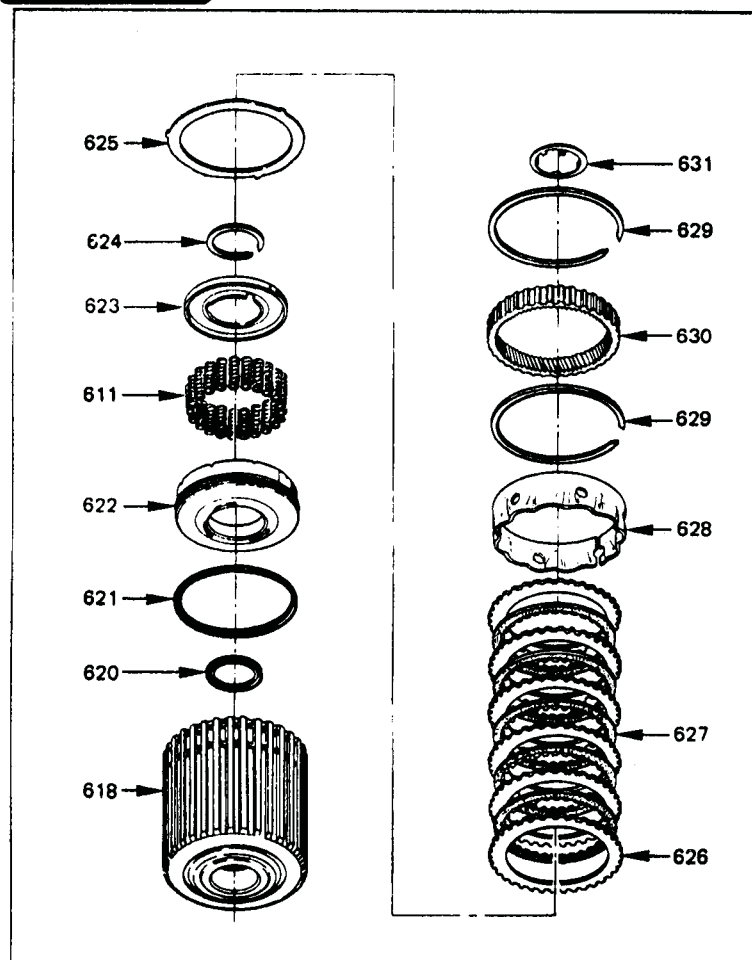

Figure 78
5. Install 22 2nd clutch return springs on top of the piston (Figure 78).
10. Install 2nd clutch wave plate on the 2nd clutch piston (See Figure 78).
11. Install 2nd clutch plates beginning with a steel plate and alternating with lined plates (Figure 78).
12. This unit requires 6 steel plates, and 5 lined plates, as shown in Figure 78.
13. Install 2nd clutch spacer, as shown in Figure 78.
15. Install internal ring gear into 2nd clutch housing on top of snap ring, as shown in Figure 78.